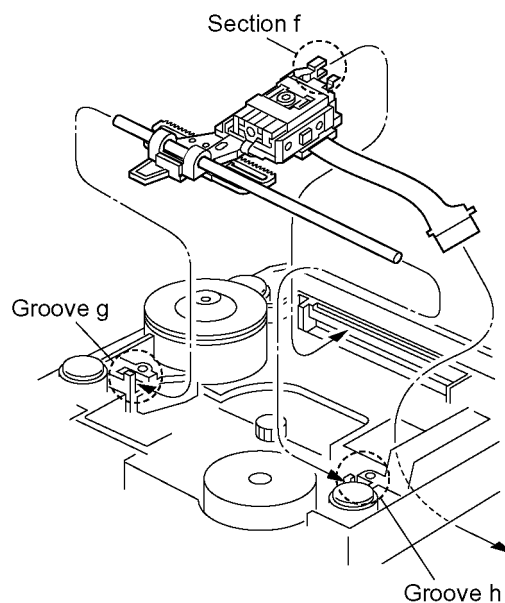

Fig.2-27
2.3.6 Attaching the pickup unit (See Figs. 2-27 and 2-28.)